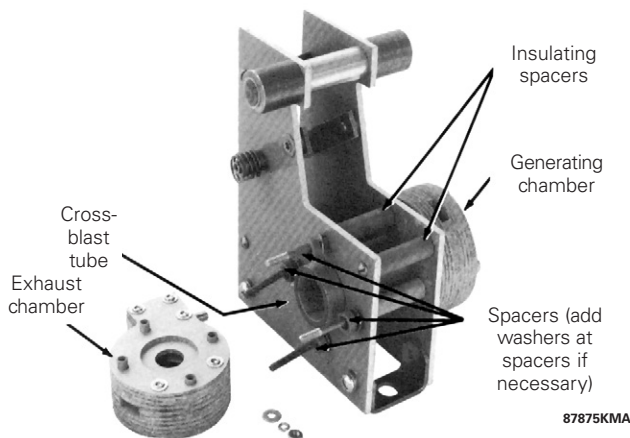

Figure 15. Partially assembled contact-box
5. Holding the moving contacts open, loop a light cord to the contact spring at the end farthest from the cross-blast structure (see Figure 15) and unhook both springs. Do not stretch the springs any further than required for removal.